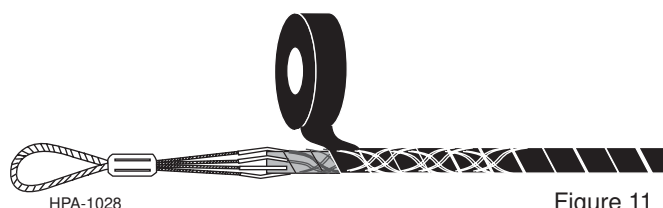

Figure 11
4.10 Starting at least 2.5 cm (1.0 in.) below the mesh on the cable jacket, wrap vinyl tape TIGHTLY to the top of the grip. The mesh's imprint should show clearly through the tape (Figure 11).